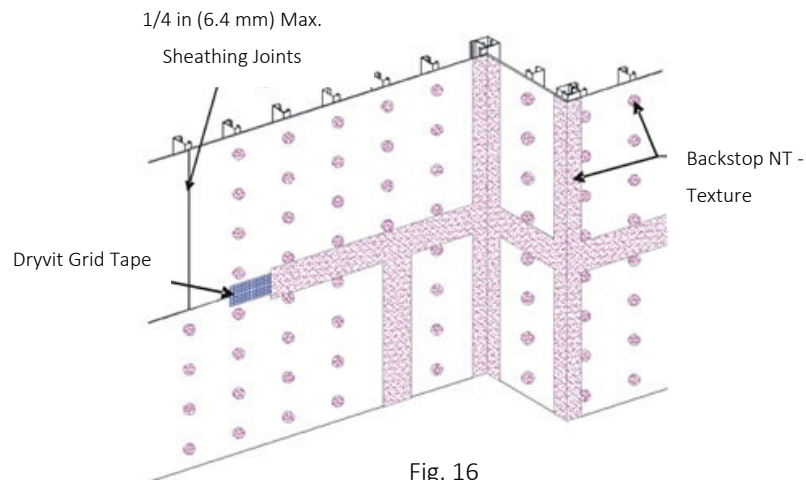

Fig. 16
- 1) Apply Dryvit Grid Tape as described in Section VI.E.1 above. Mix the Backstop NT - Texture material as described in Section III.B.2. Using a stainless steel trowel or spatula, apply a layer of Backstop NT - Texture over the Dryvit Grid Tape and spot all fastener heads – Figure 16.